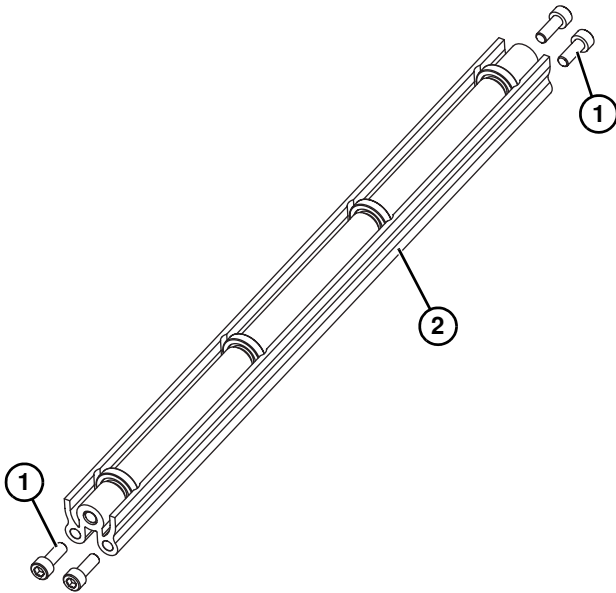

Figure 16
1. Locate return rollers. Exploded view shown in (Figure 16).
2. Remove screws (Figure 16, item 1) and roller assembly (Figure 16, item 2).